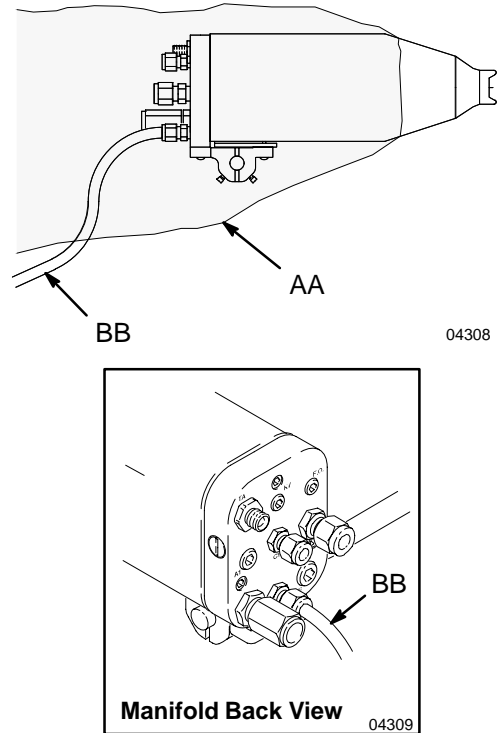

Fig. 17
1. Install a fabric cover (AA) over the front of the gun, and slide it back to cover the exposed tubing and hoses at the back of the manifold. See Fig. 17.
2. Route the exhaust tube (BB) outside the cover. This enables you to monitor the exhaust tube for the presence of any paint or solvent. See **Check for Fluid Leakage** on page 25. Strap down the exhaust tube to prevent it from moving around.